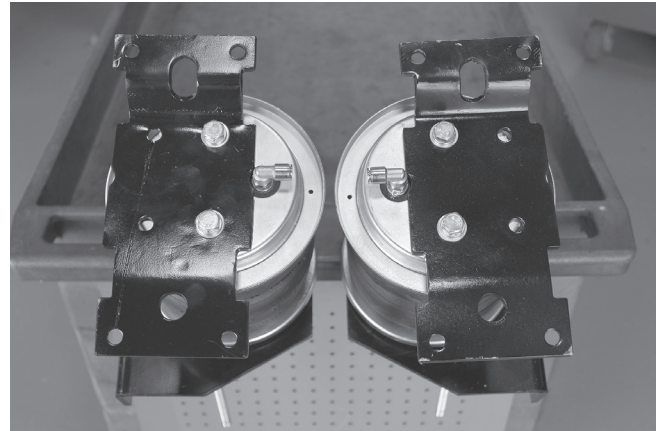

Fig. 15
7. Fig. 15 shows the driver's (left) side and passenger's (right) side assemblies.